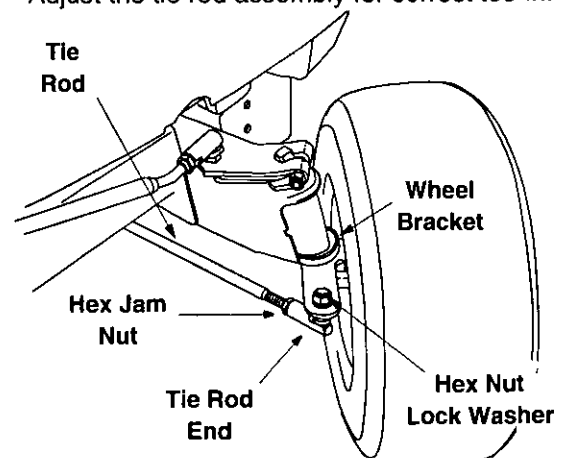

Figure 20
1. Remove the hex nut and lock washer, and drop the end of the tie rod from the axle bracket. See Figure 20.